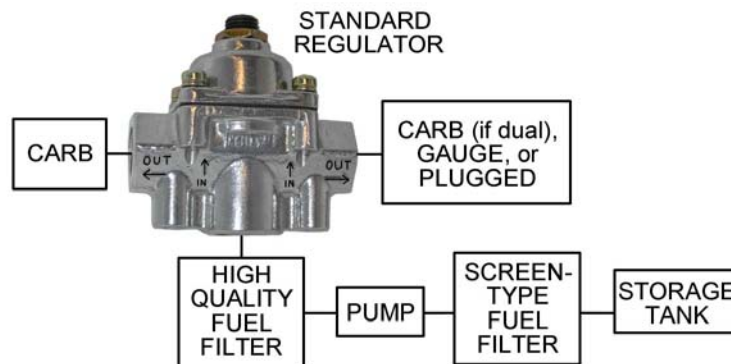

Figure 1
2. The standard regulator, provided with the 15914 pump, has two discharge (outlet) ports (see Figure 1). In dual carburetor installations, one port can feed each carburetor. With single carbs, plug one port and feed the carburetor from the other. Either may be used. Installations should determine choice. See Figure 1.